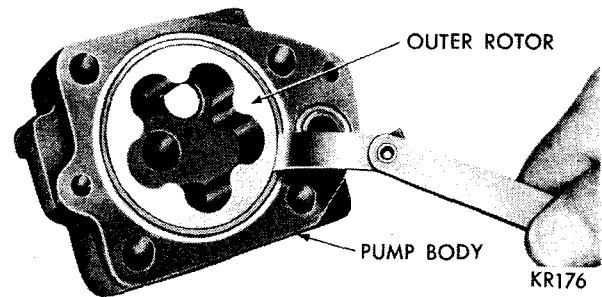

Fig. 46—Measuring Outer Rotor Clearance
- (5) Install outer rotor into pump body, pressing to one side with fingers and measure clearance between outer rotor and pump body (Fig. 46). If measurement is more than .014 inch, replace oil pump body.